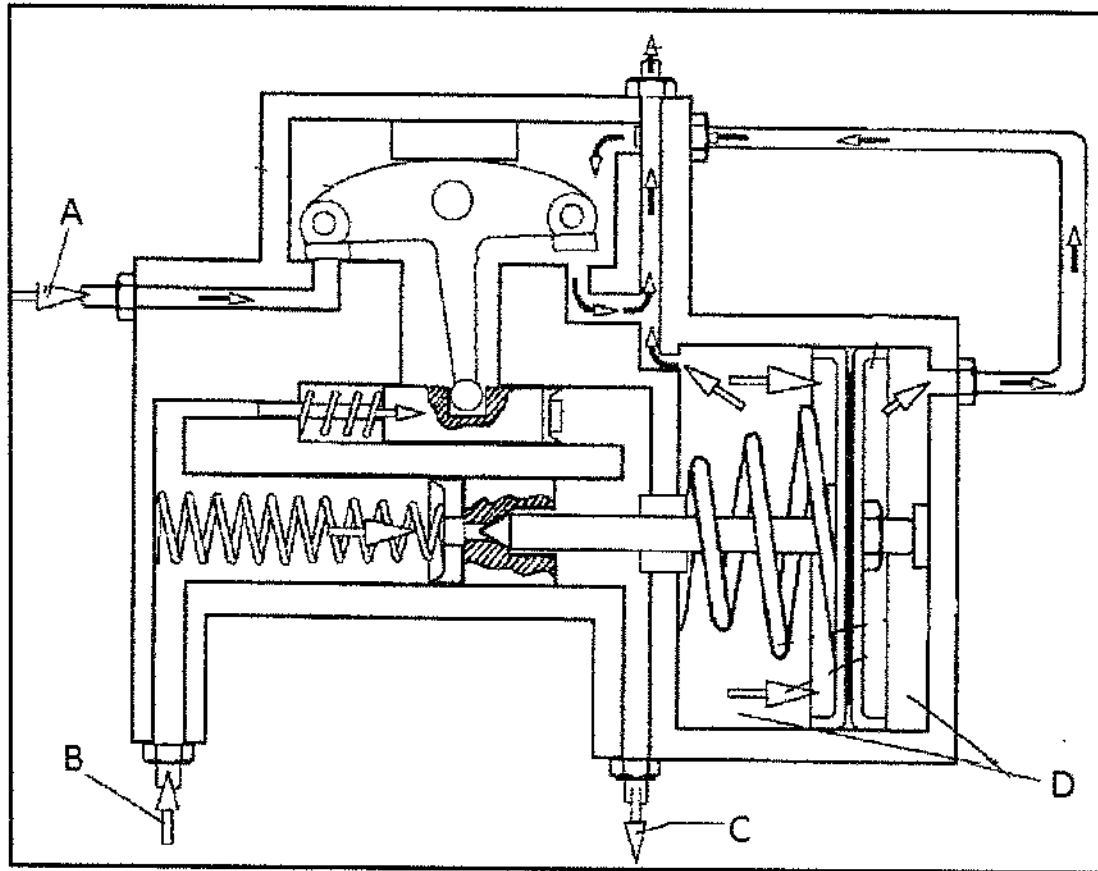

FIGURE 4
FIGURE 4 shows a BRAKE BOOSTER that is used on a hydraulic braking system.
- 4.2 Is the brake booster shown in FIGURE 4 in the resting or applied position? (1)